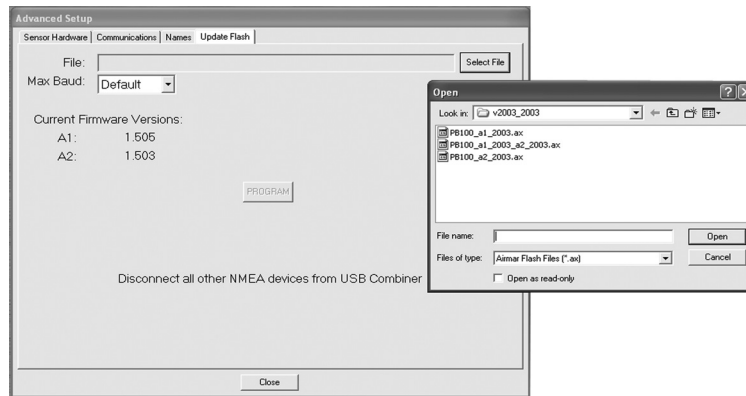

Figure 75. Advanced Setup window with Update Flash tab and Open window
5. Click Select File (see Figure 75). In the Open dialog box, browse to the sensor flash file to be used. The file name will end in ".ax". Click Open.